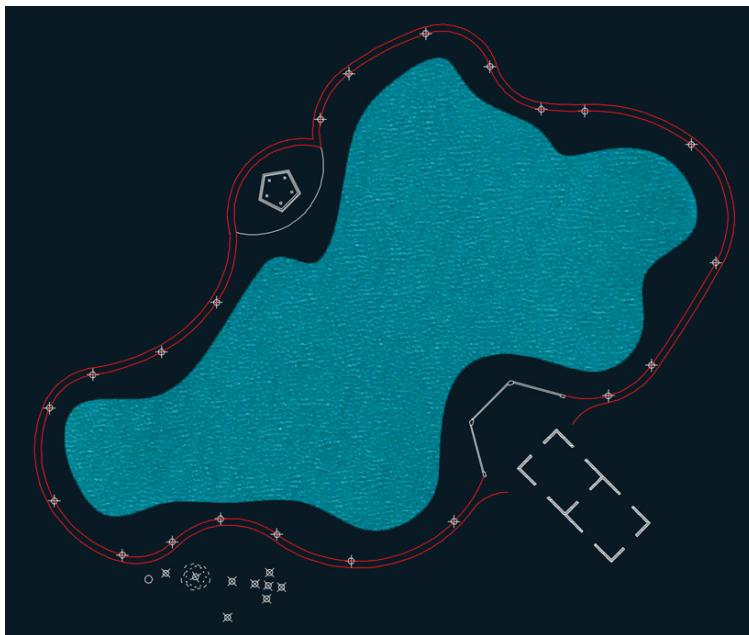

FIGURE 5.8 The curving path around the lake joined into two objects
17. Press the spacebar to repeat the JOIN command. Select the three objects along the inner edge of the path, which include two polylines and the arc above the pentagon. Press Enter, and multiple segments are joined into one polyline (see Figure 5.8).